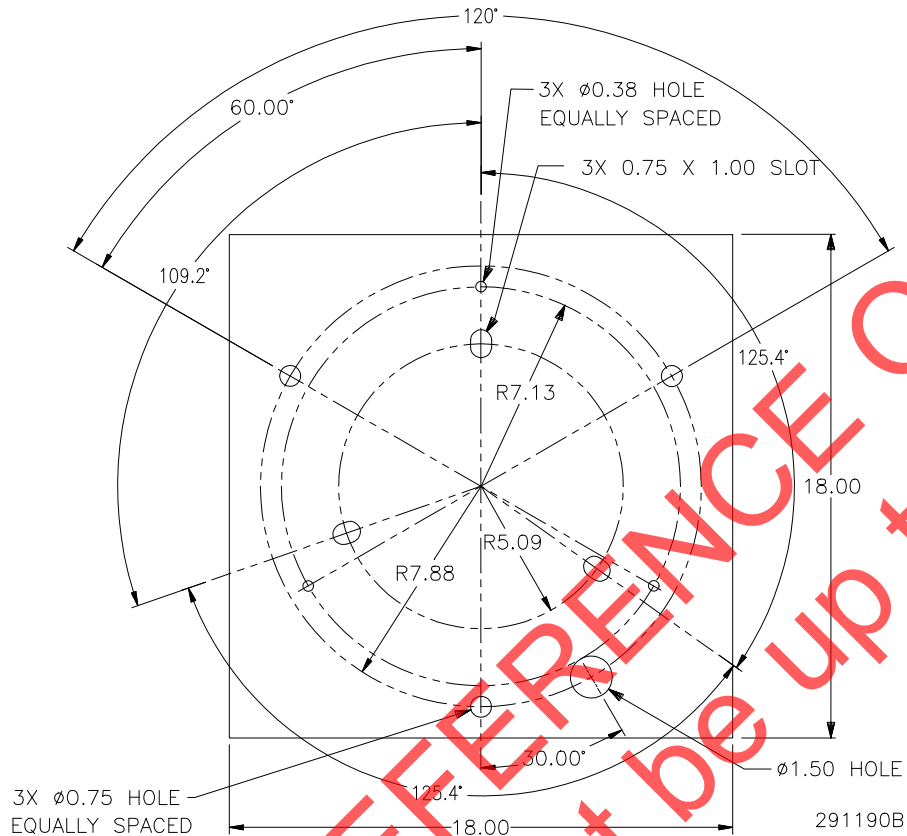

Figure 3-1. Mounting Plate Drilling Detail
- (b) Attach the cast iron legs of the siren mechanism to the mounting plate using 3/8" lock-washers, nuts, and bolts through the 3 slots in the mounting plate (see figure 3-1).
- (c) Set the siren housing over the siren mechanism on the mounting plate. Center the housing over the mechanism. Attach the housing to the plate using aluminum clips, 1/4" lock-washers, nuts, and bolts through the three 3/8" diameter holes (see figure 3-1 and figure 5-8).
(d) Lay the siren mechanism on its side and attach the three legs to the mounting plate using three angle iron clips and six 1/2"-13 nuts and bolts. Attach the legs through three .75" X 1" slotted holes indicated in figure 3-1.